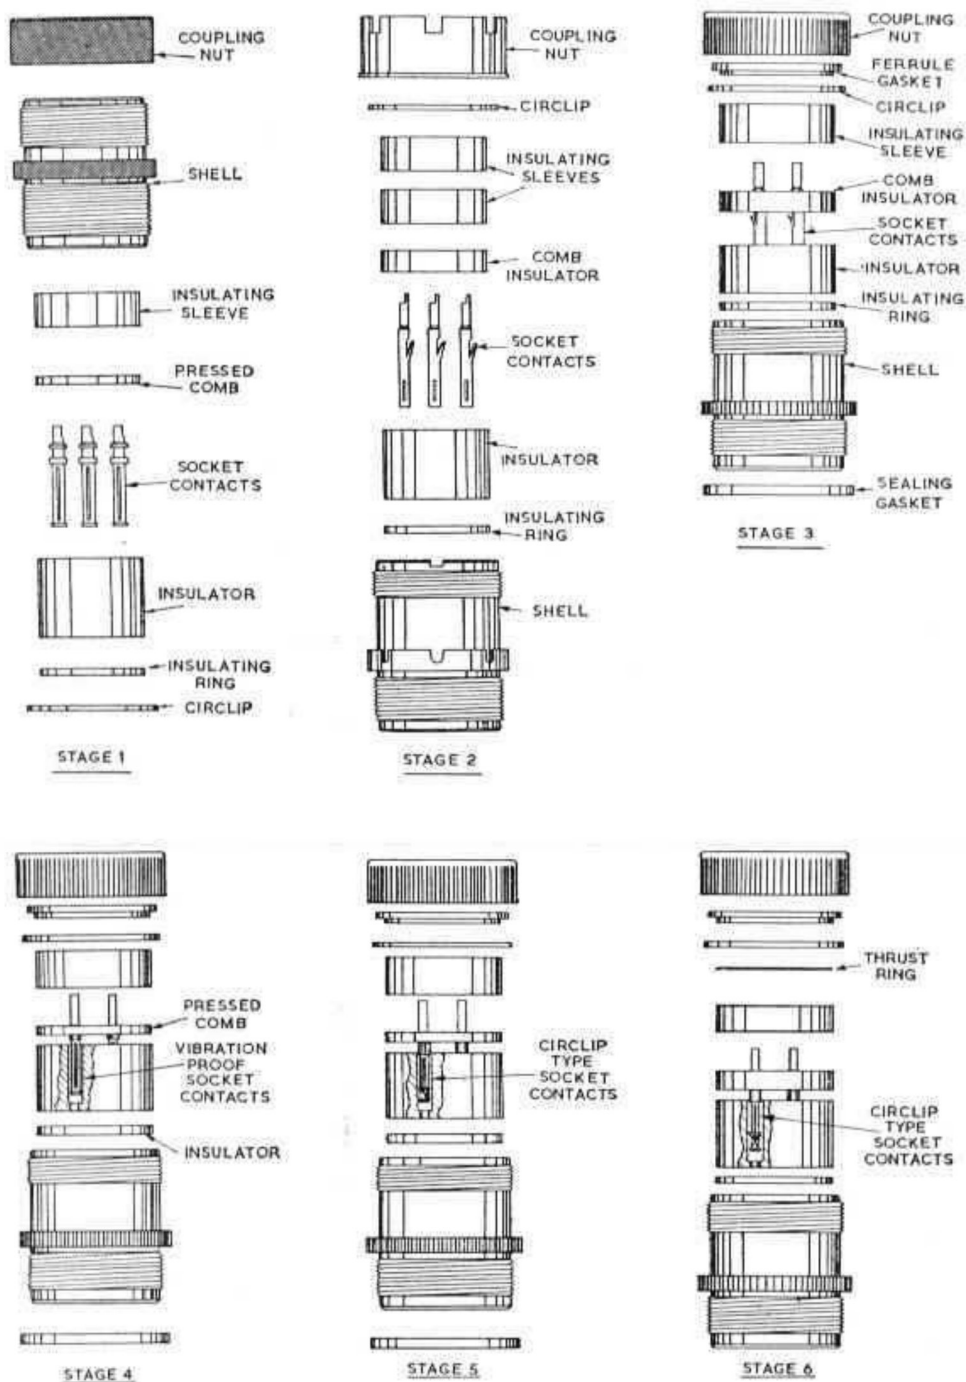

Fig. 8. Free unit, stages of development
13. This style of unit (fig. 8) was the original design, manufactured with rimmed shells in aluminium, brass or steel. It includes a long socket insulator of phenolic material and a pressed comb. Solid end split type socket contacts with short wells (suitable only for soldering) are used and these are protected by an insulating sleeve at the well ends. A diamond knurled coupling nut screws on to the back of the shell to secure the assembly; at the front of the shell the insulator is retained by an insulating ring and a circlip.
14. In this style (fig. 8) the shell and coupling nut were modified. The shell rim is castellated and longer shells are used in sizes D, E and F. The coupling nut is not knurled but castellated. A shortened socket insulator is used and this is backed by a comb insulator in place of the pressed comb. Rolled type socket contacts (suitable for soldering or crimping with the use of thimbles) are used and these are protected by insulating sleeves at the well ends (one sleeve is used in a size A, Z, B or C shell; two sleeves are used in a size D, E or F shell). The insulator is retained by the insulating ring at the front and a circlip at the back. The coupling nut screws on to the back of the shell to secure the assembly.
17. Units at stage 5 (fig. 8) differed only in the type of contact used. These contacts are an improved type using circlips and were designed to provide lighter insertion loading and greater contact length.
18. Units at this stage (fig. 8) were designed to operate between ambient temperatures of  $-65$  degrees C. and  $+150$  degrees C. They are similar in construction to those in stage 5 except that the socket and comb insulators are of alkyd, and the shorter insulating sleeve and the insulating ring are of fibreglass (P.T.F.E. coated); the ferrule gasket is of silicone rubber. A steel thrust ring has been introduced at the rear of the insulating sleeve. The sealing gasket is not included in the assembly but always accompanies the unit since it may be required to mate with an early type of fixed unit.